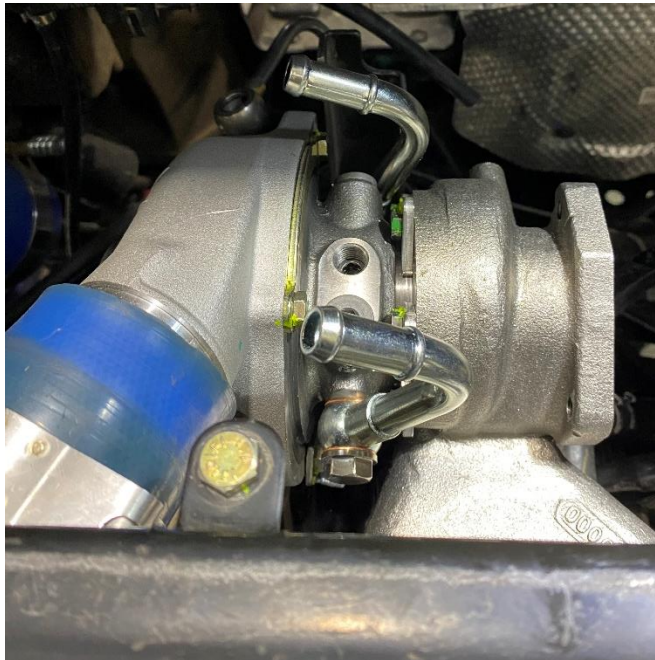

Figure 1
- Step 10:** Loosen the (4) bolts securing the TSB to the frame and pull toward the front of the vehicle to give enough clearance to remove the OEM turbocharger.
- Step 11:** Remove the turbocharger from the engine by removing the (4) hex nuts and (2) socket head bolts. A ball nosed Allen socket with an extension works best for the socket head bolts.
- Step 14:** Install the Dynamite turbocharger onto the engine and secure with (2) nuts.
- Step 15:** Before permanently installing the turbo support bracket (TSB), install all turbo to engine fasteners- socket head cap screws and nuts. The nuts are to be torqued to 26 ft lbs and the socket head cap screws to 17 ft lbs. (Figure 1)